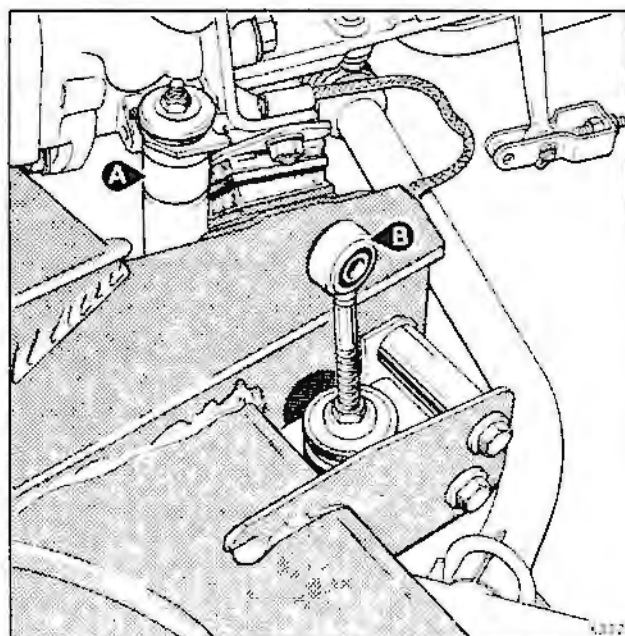
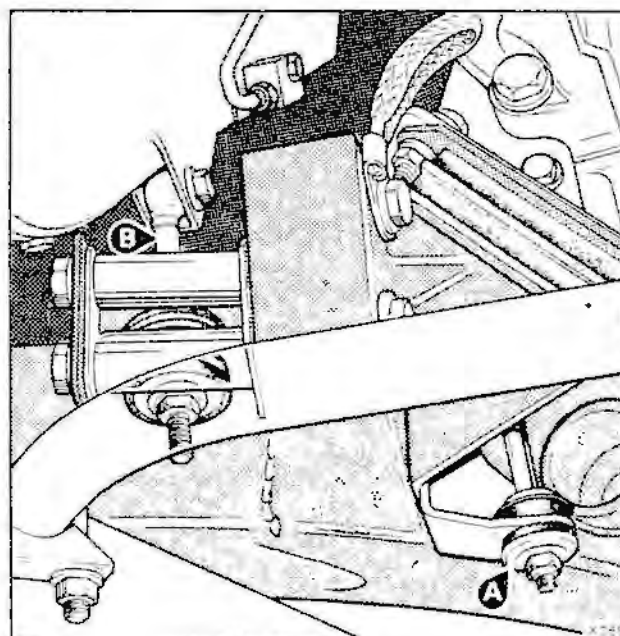

Fig. 4
Fig. 5
Twin rubber mounts retained by lock-nuts are used at each end of the damper. The upper end of the damper is located in a bracket which is part of a new gearbox adapter plate. The lower end of the damper is located in a mounting bracket attached to the sub-frame by the two foremost setscrews. The setscrews secure the rear engine mounting bracket to the sub-frame. Figure 4, item A and figure 5, item A illustrate the general arrangements.
- 2 Install the damper unit with the rod downwards as shown in Fig. 5 and 6. Ensure that the two tapered rubbers are fitted either side of the upper mounting bracket, with the tapers facing downwards, and the large cup washer on top. The two smaller cup washers and rubbers are fitted to the lower mounting bracket.